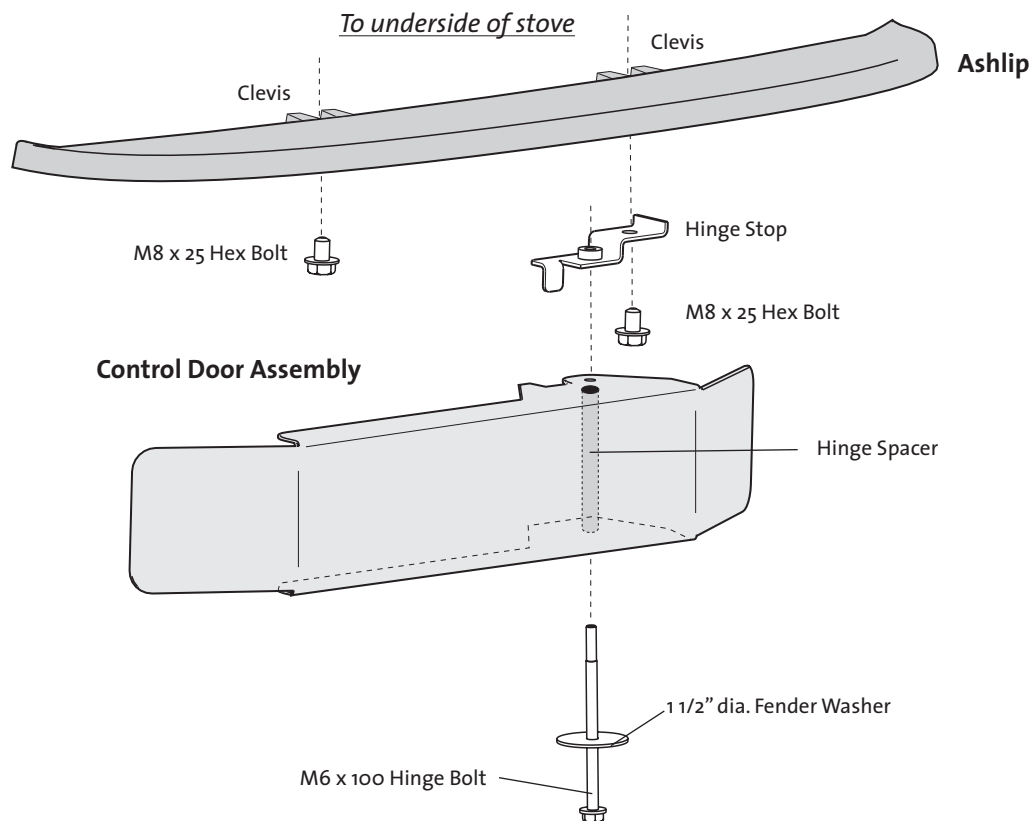

Figure 41.
The Control Door assembly attaches to the stove bottom with the right side Ashlip bolt. Follow the steps and fig. 41 below to attach **first the Ashlip, and then the Control Door assembly** to the stove.
2. Using the other M8 x 25 hex bolt, attach the Hinge Stop of the Control Door assembly to the right ashlip boss, oriented as shown in fig. 41. Tighten the bolts with the wrench.